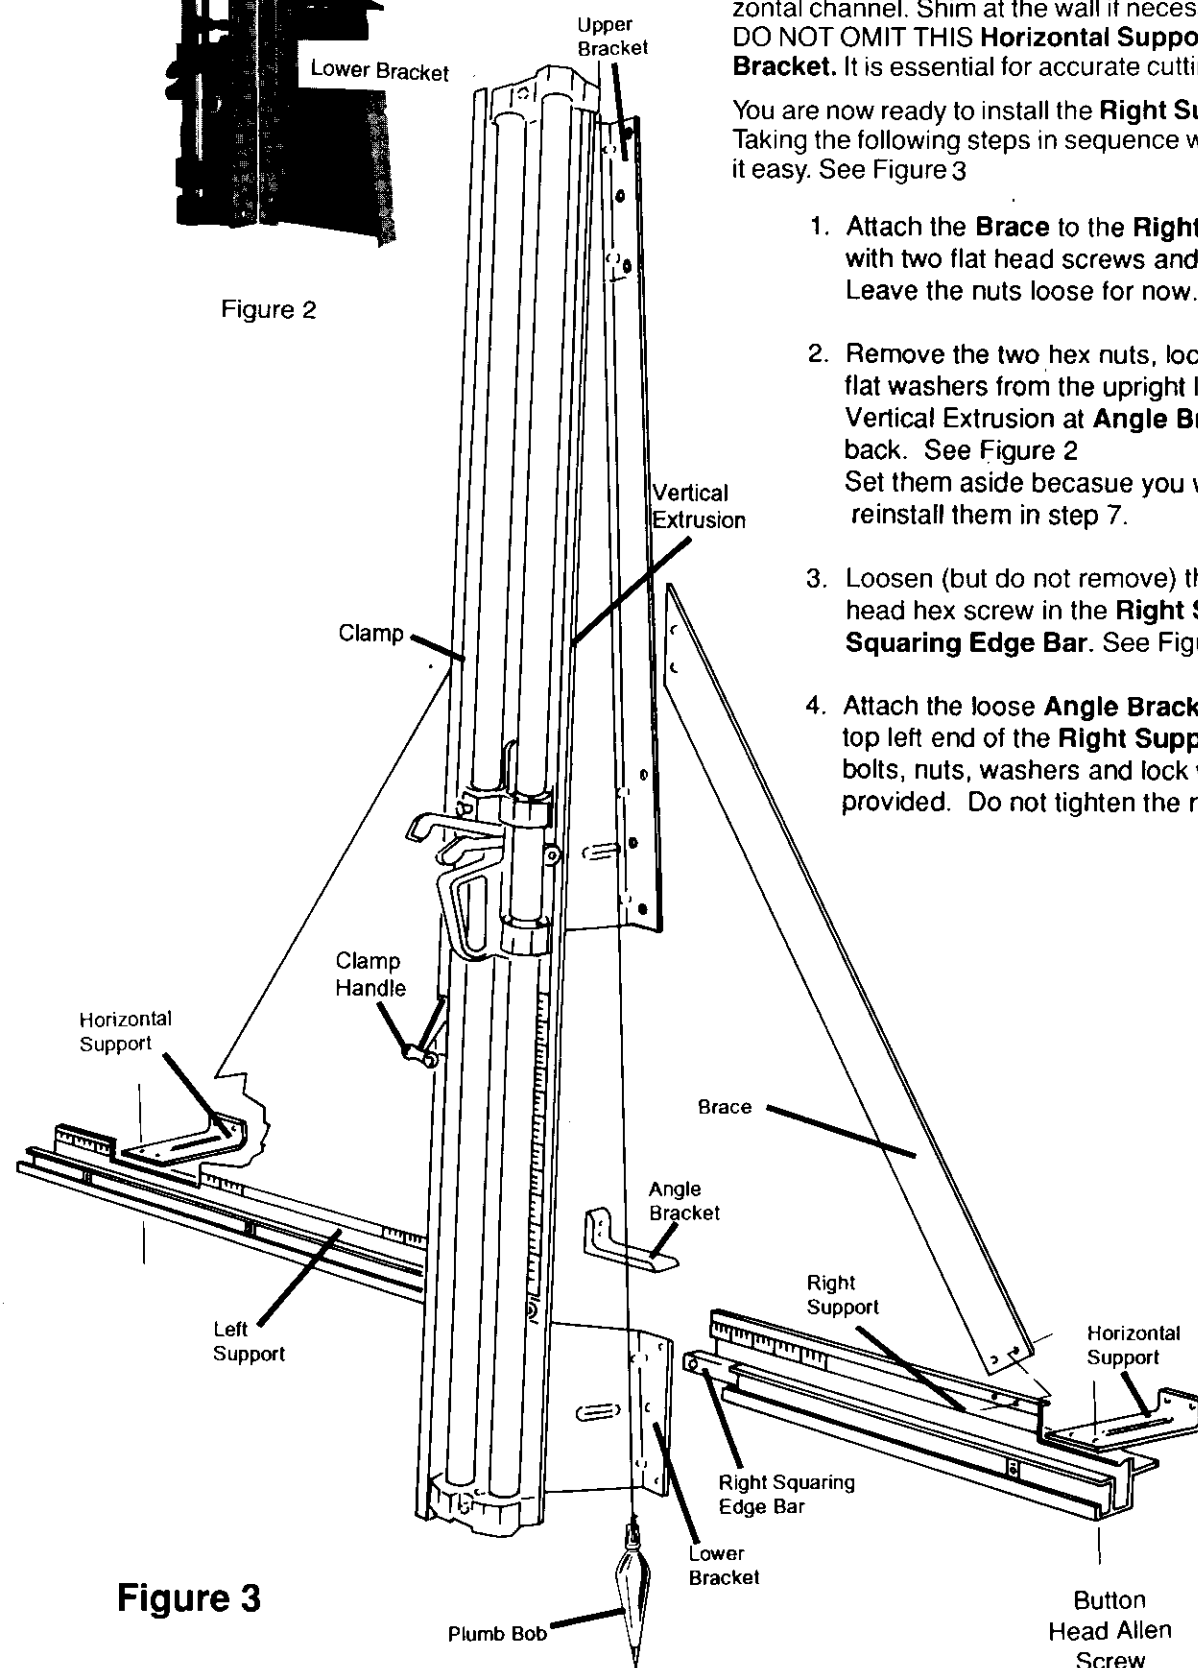

Figure 3
You are now ready to install the **Right Support**. Taking the following steps in sequence will make it easy. See Figure 3
3. Loosen (but do not remove) the button head hex screw in the **Right Support Squaring Edge Bar**. See Figure 3.